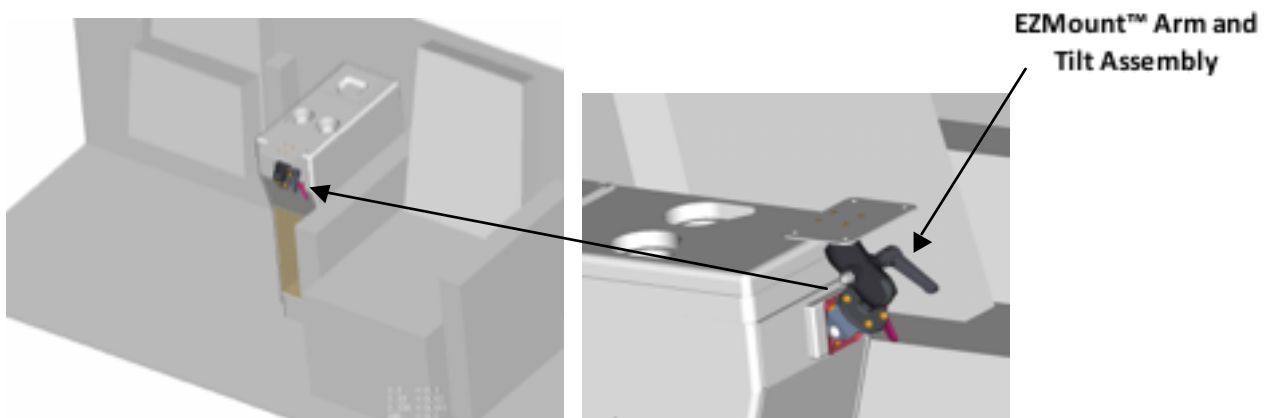

FIGURE 3 - OBSERVERS CENTER MONUMENT WITH EZMOUNT™ ARM AND TILT ASSEMBLY
- » The installation of an EZMount™ arm and tilt assembly onto the front face of the sliding tray drawer on the center monument located between both observers. The modification will require the drawer front panel to be removed and a replacement will be installed to mount the EZMount™ arm and tilt assembly (see Figure 3).